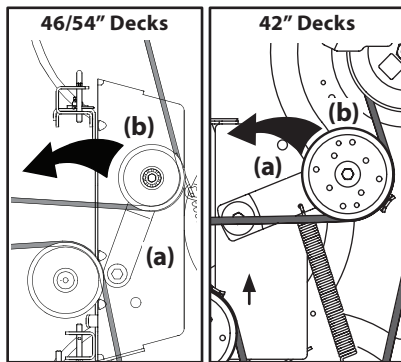

Figure 4-11
- b. Working from the middle of the tractor, pivot the idler bracket (a) and movable idler pulley (b) rearward away from the backside of the "V" belt just far enough to lift the belt up and over the idler pulley. See Figure 4-11.